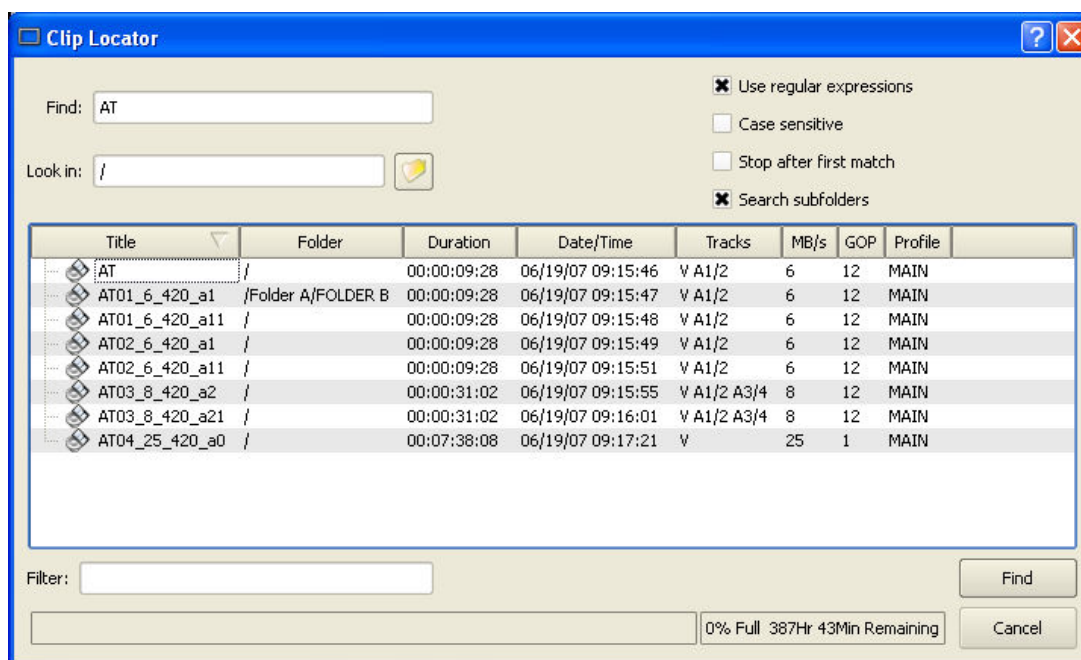

Figure 18 - Clip Locator
- A. Click **SHOW > FIND CLIPS**. The Clip Locator screen of Figure 18 appears.